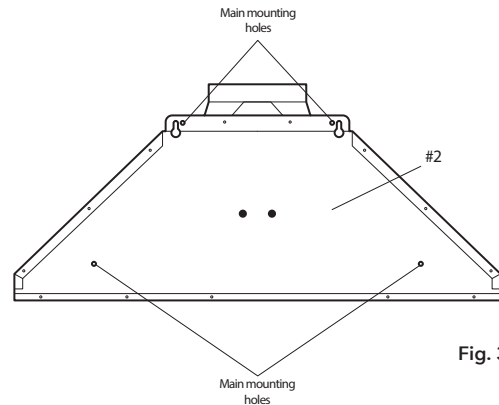

Fig. 3
- B. Hang the hood body (#2) onto the screws (AA) mounted onto the wall and securely tighten the screws (AA) to secure the hood body (#2) on the wall
- C. Install two additional hood body mounting screws (AA) into the auxillary mounting holes to secure the hood body (#2) in place. See Fig. 3